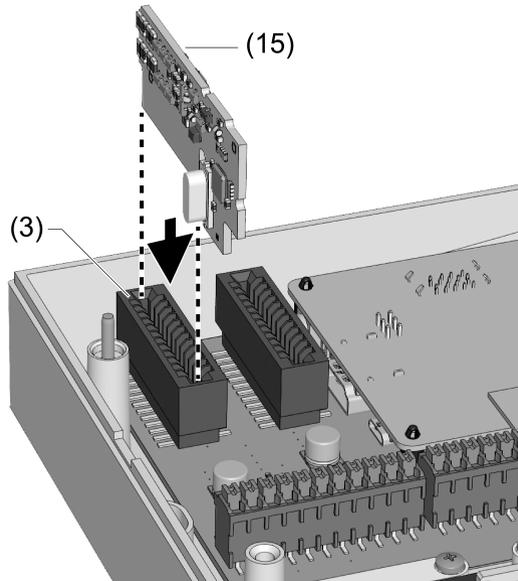

Figure 5: Inserting the interface **LEDTRIX**
- Insert the interface **LEDTRIX** (15) into slot **F1** (3) as shown (Figure 5).